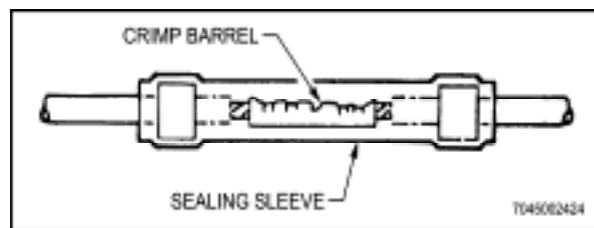

Figure 5-13 Sealing Sleeve Centred Over Crimp Barrel
- o. Centre sealing sleeve over crimp barrel (Figure 5-13).